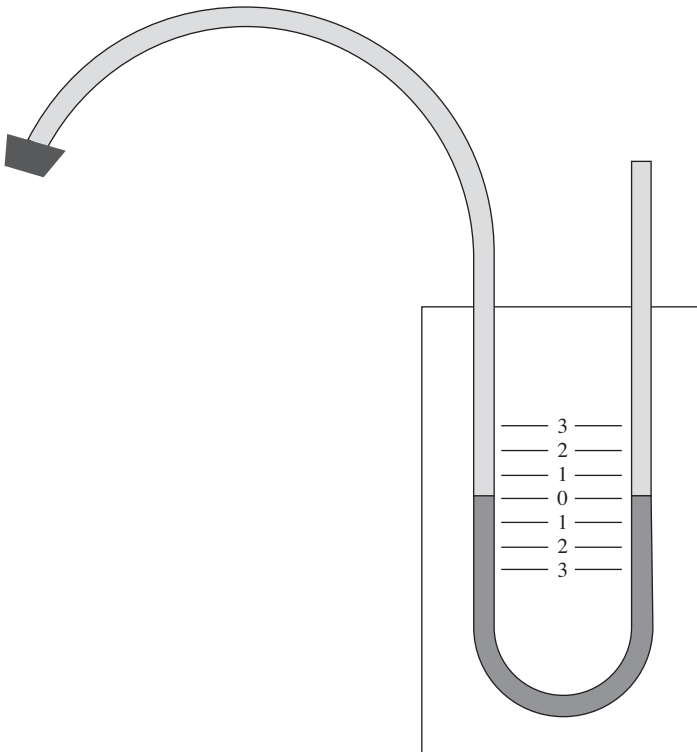

FIG. 7-9 A manometer is a versatile tool with many applications, such as, for example, checking propane pressure on gas-fueled gensets.
1. Secure a 6-ft-long, $\frac{1}{2}$ -in.-diameter clear plastic tube to a 10×30 -in. piece of $\frac{1}{2}$ -in. plywood (Fig. 7-9). The U-shaped bend in the tube should be gradual.